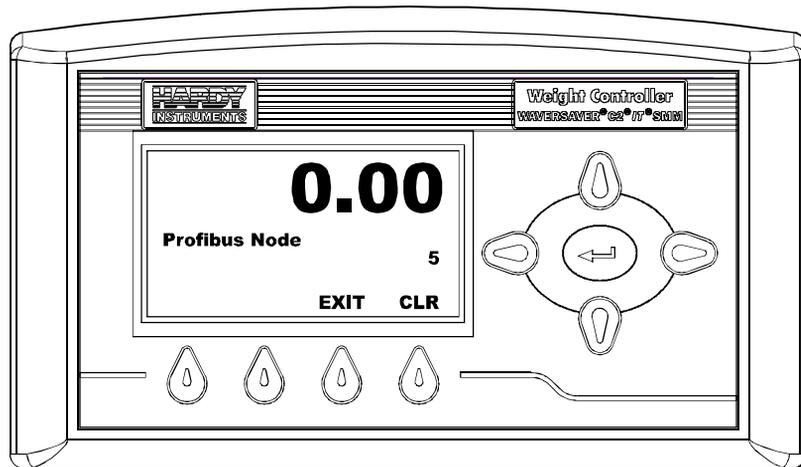

FIG. 173 PROFIBUS NODE MENU/SELECTING NODE ADDRESS NUMBER
Step 6. Press the up or down arrow buttons until the cursor is in front of Profibus Node. Press the Enter button. the Profibus Node Menu appears with the current Node address setting. (See Fig. 173)